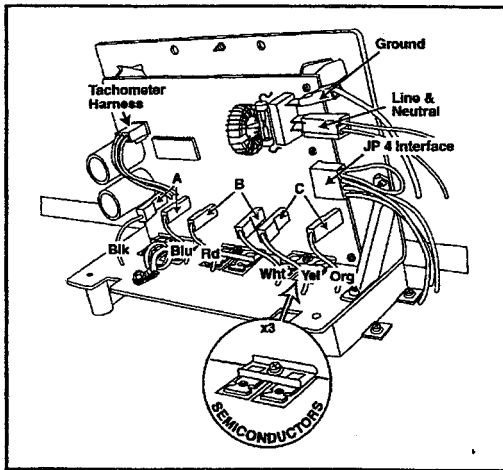

Figure 2-62
1. **Disconnect power to the machine & connect a power test cord to the Line & Neutral terminals of the Motor Control board. (*Figure 2-62*).**
- a. Check the 10 amp fuse located on the control board, either visually or with an ohm meter. If bad, replace motor control/wire harness assembly completely (*Figure 2-62*).
To gain access to the Motor Control Board terminals: (*Figure 2-62*)
6. Connect the power test cord to the Ground wire, Line 1 and Neutral wires. (Leave the JP4 connector off the board.) **(Figure 2-62).**
2. **Disconnect power to the machine** & connect a power test cord to the Line & Neutral terminals of the Motor Control board *(Figure 2-62, page 2-28).*